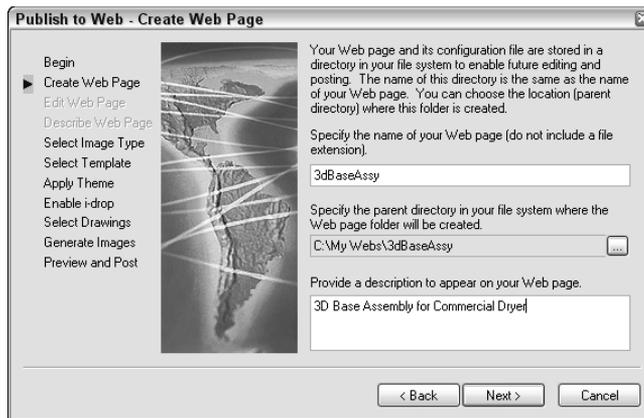

Figure 28-9: On the Create Web Page screen, specify where you want to create your Web page on your own computer system and create a description of the page.
3. On the `Create Web Page` screen, shown in Figure 28-9, type a filename for the Web page. (This action creates a folder with this name and places all the files for the Web page in the folder.) Then click the ellipsis button (...) to navigate to where you want to create this file. If you already store Web page files on your system, you can use the same location. Finally, add a description that will appear on the Web page. Click `Next`.